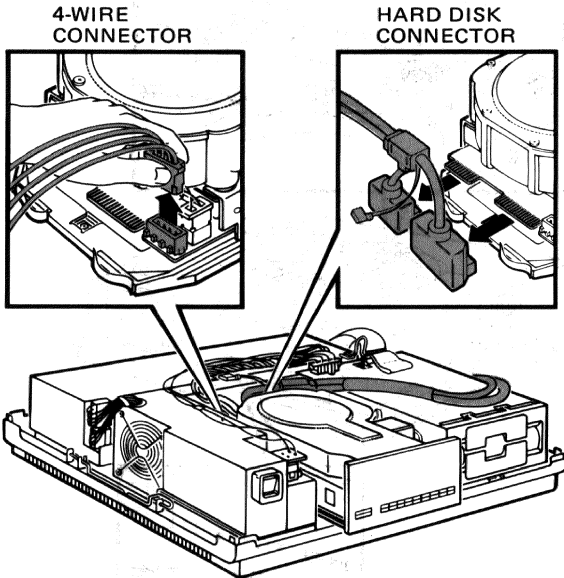

Figure 5-19 Hard Disk Drive 4-Wire Power Cable and Hard Disk Drive Cable Removal
4. Unplug the 4-wire power cable from the back of the hard disk drive. (Figure 5-19)
5. Pull the hard disk drive cable straight out of the back of the hard disk drive (Figure 5-19). Do not remove this cable at an angle to the disk drive.